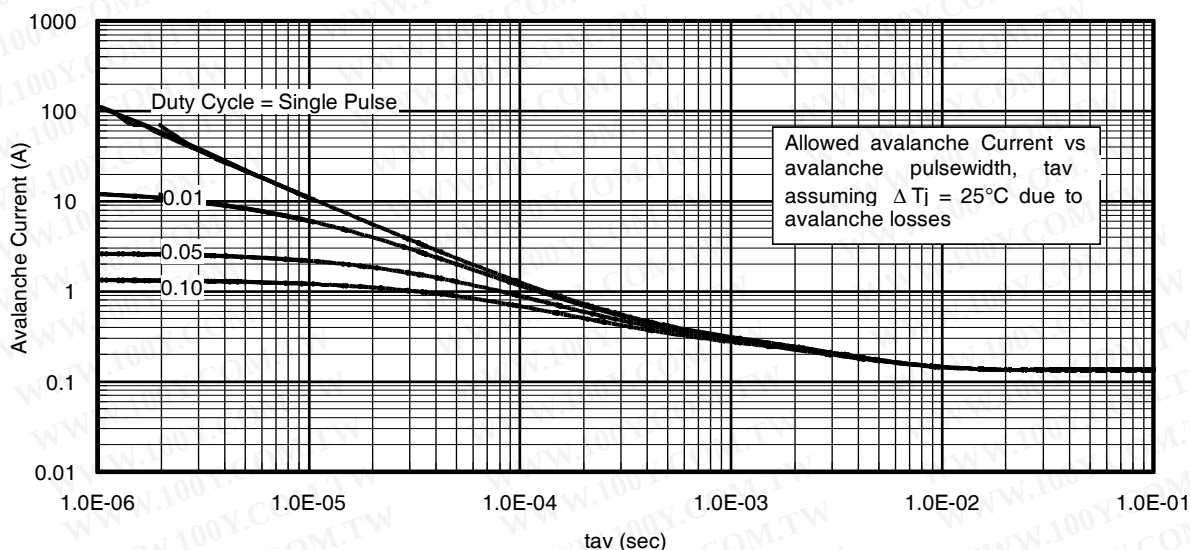

Fig 14. Typical Avalanche Current Vs. Pulsewidth
- ① Repetitive rating; pulse width limited by max. junction temperature.
- ② Starting $T_J = 25^\circ\text{C}$, $L = 1.62mH$, $R_G = 25\Omega$, $I_{AS} = 11A$.
- ③ Pulse width $\leq 400\mu s$; duty cycle $\leq 2\%$.
- ④ R_{θ} is measured at T_J of approximately 90°C .
- ⑤ Limited by T_{jmax} . See Figs. 14, 15, 17a, 17b for repetitive avalanche information.
Notes on Repetitive Avalanche Curves, Figures 14, 15: (For further info, see AN-1005 at www.irf.com)
7. ΔT = Allowable rise in junction temperature, not to exceed T_{jmax} (assumed as 25°C in Figure 14, 15).